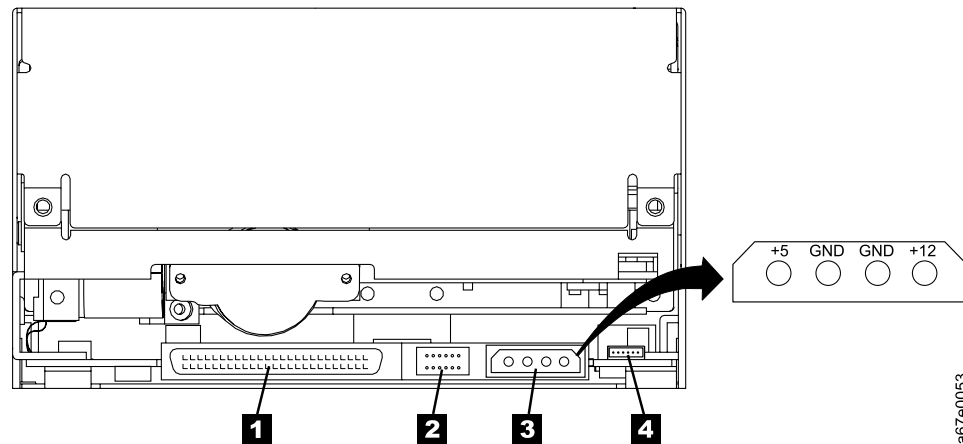

Figure 2. Rear View of the Ultrium Internal Tape Drive - SCSI Drive
1. Locate the SCSI ID connector (see **2** in Figure 2 on page 10).
If the tape drive is the last device on the SCSI bus, you must terminate the bus outside the enclosure or internally at the SCSI ID connector (see **2** in Figure 2 on page 10).